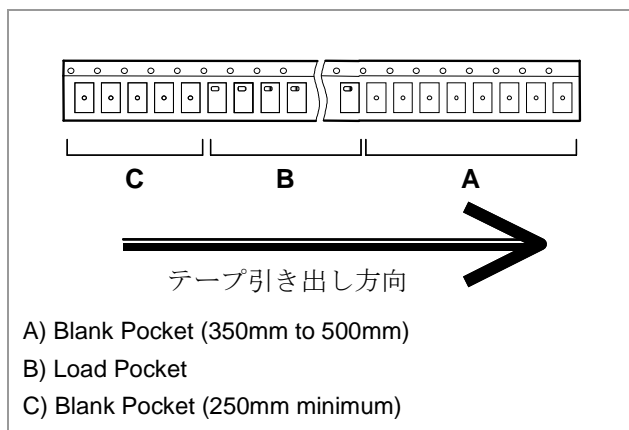

Fig.8 Taping
- Package shall consist of leader, blank pocket and loaded pocket as follows. “Fig.8”